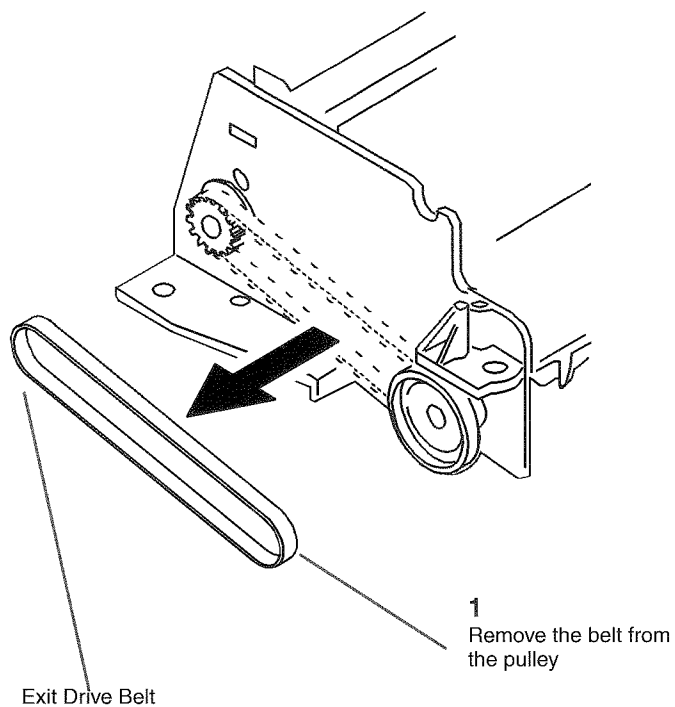

Figure 5 Removing the Exit Drive Belt
6. ( Figure 5 ): Remove the Exit Drive Belt.